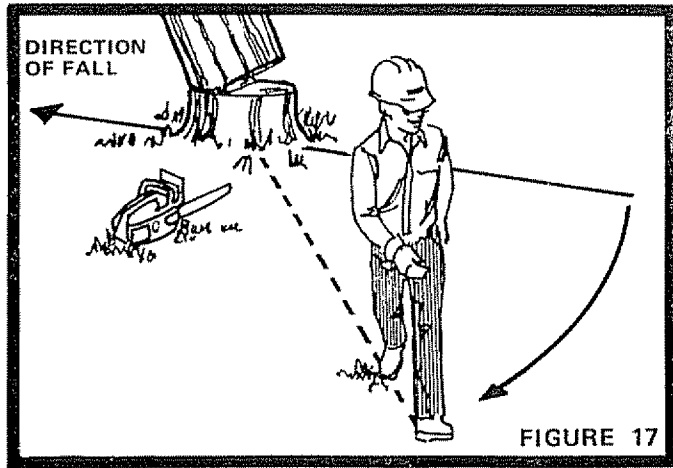

FIGURE 17
2. **PLAN YOUR ESCAPE ROUTE.** Choose a route back and to one side of the direction of tree fall (Fig. 17). You should plan a route that will place you at least twenty feet from the stump at the time the tree hits the ground.